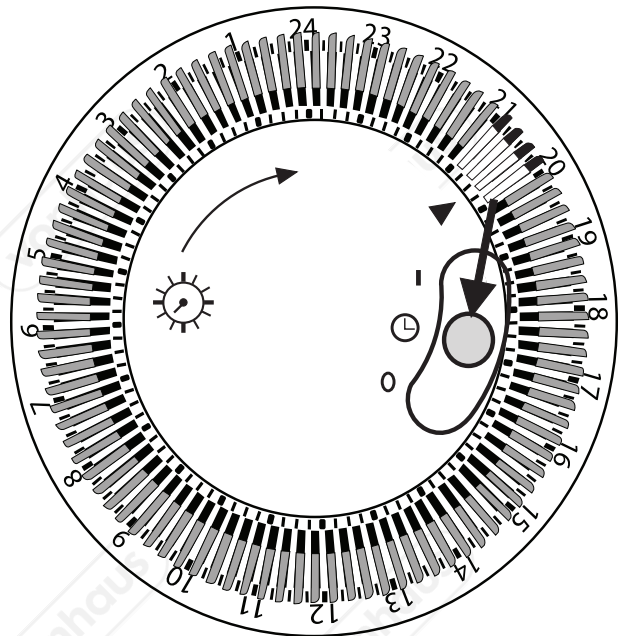

Fig 2
**2.** Fit the wheels assemblies onto the radiator by placing the U-shaped bolts between the outermost fins on each side of the radiator (**see Fig.2 - 4**).
**3.** Move the timer switch to symbol “🕒” to enable the timer (**Fig 2**).